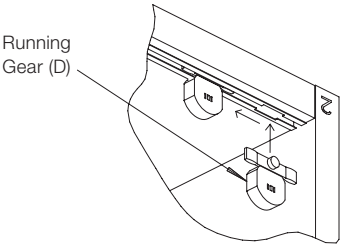

Figure 4
3. At each end of the factory installed support rail you will find a rectangular cut-out, using this as an access point, install all the running gears (D). (Fig. 4)